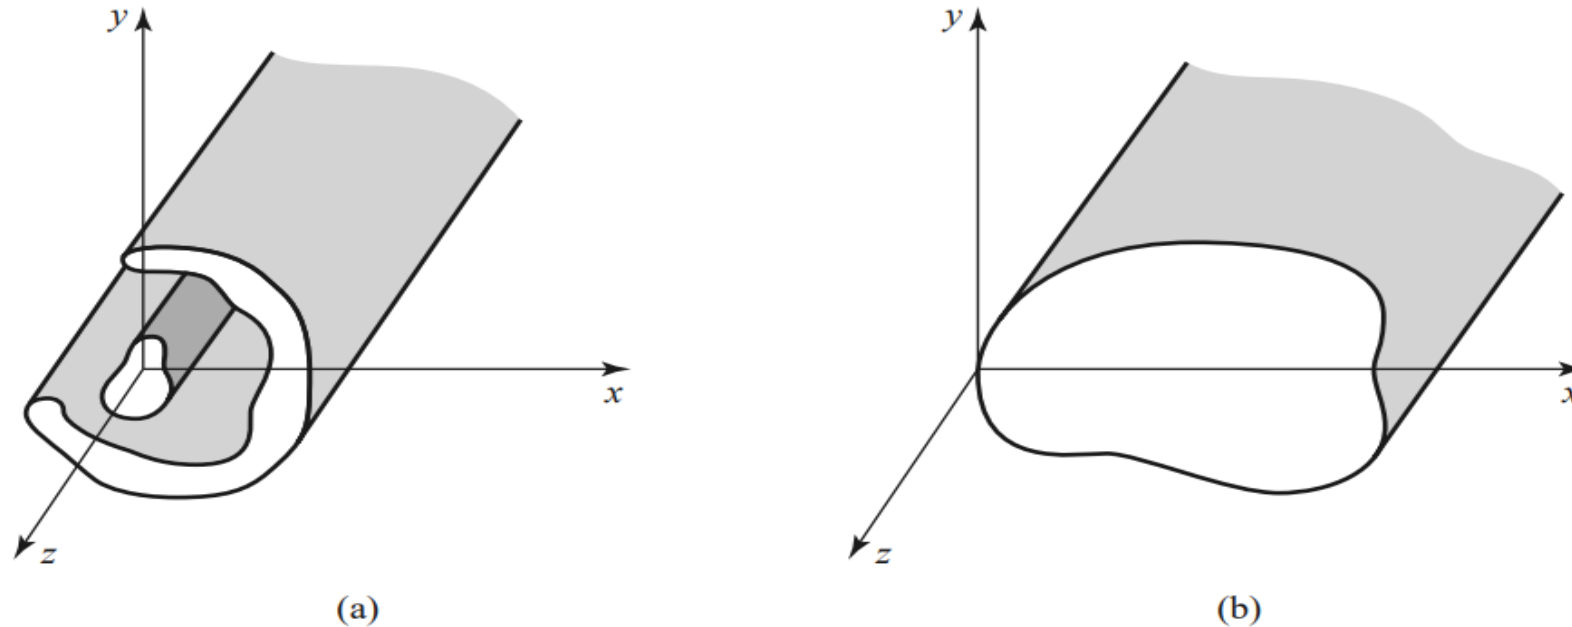

FIGURE 3.1 (a) General two-conductor transmission line and (b) closed waveguide.
- The geometry of an arbitrary transmission line or waveguide is shown in Figure 3.1 and is characterized by conductor boundaries that are parallel to the z -axis.